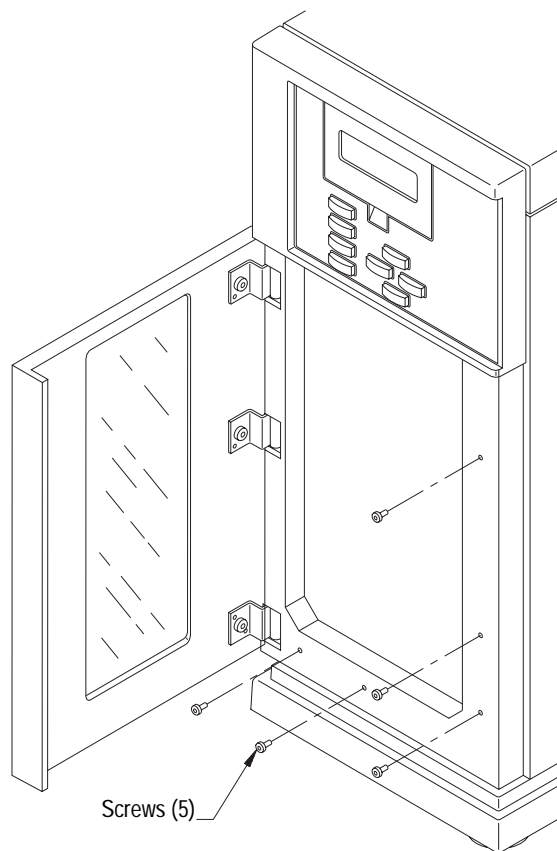

Figure 6 Removing the screws from the standalone front panel
3. Open the front door and use a T-10 TORX bit to remove the five screws from around of the panel (see Figure 6).